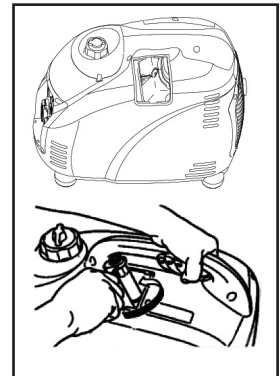

Fig. 30
1. Remove the cover. See figure 30